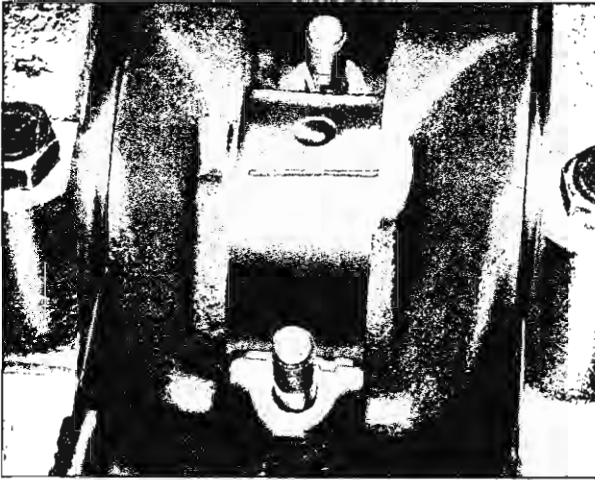

Fig. 55—Plastigage on Crankpin
4. Place a piece of Plastigage the full width of the bearing on crankpin (parallel to the crankshaft) (fig. 55).